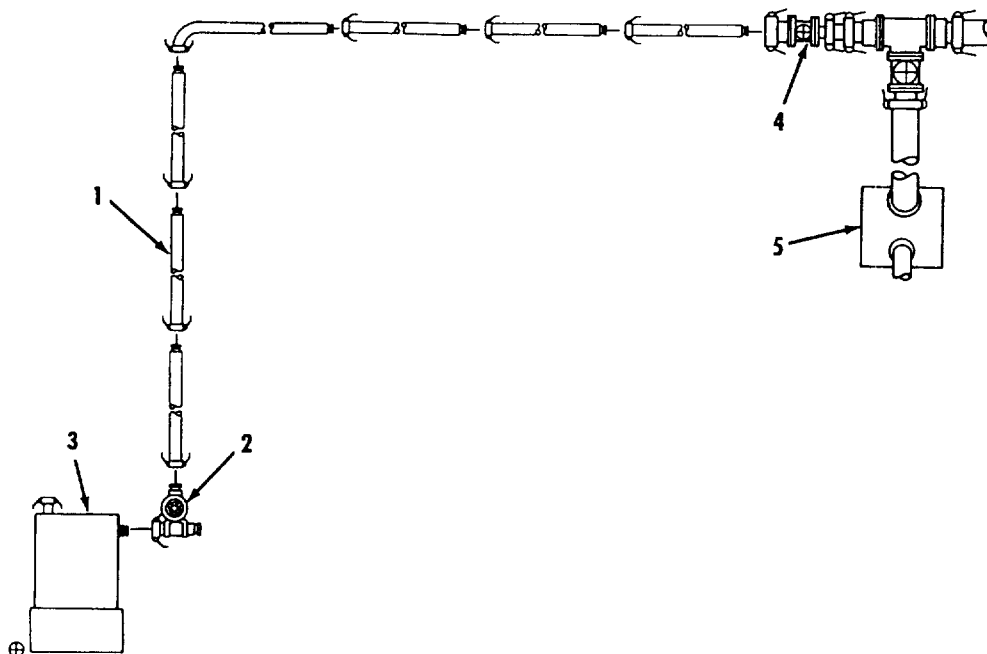

Figure 2-48. Fuel System - Fuel Tank Bypass Hose Removal.
- g. Fuel System - Fuel Tank Bypass Hose Removal. Refer to figure 2-48.